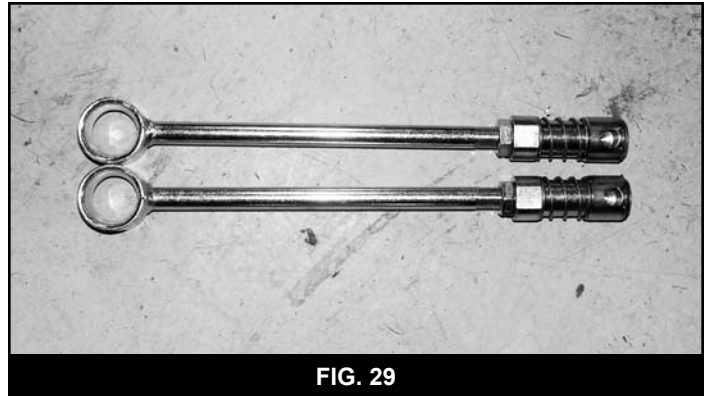

FIG. 29
72. Install the provided 1/2" jam nut (BP 718), then the spring loaded disconnect assembly (01300 assembled) on the threaded end of the new link. Thread the nut and assembly all the way on to the link (Fig 29).